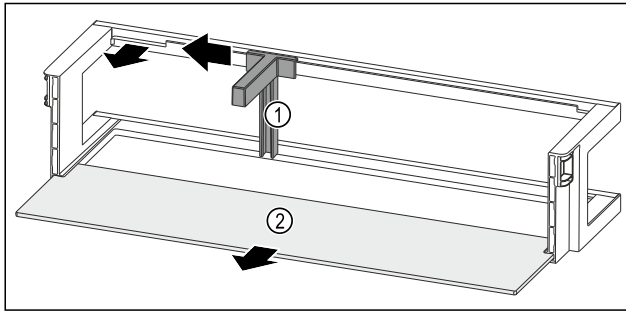

Fig. 223 Door rack with bottle holder and shelf
- ▶ Slide the bottle holder Fig. 223 (1) to the side as far as the recess.
- ▶ Remove the bottle holder Fig. 223 (1).
- ▶ Remove the shelf Fig. 223 (2).